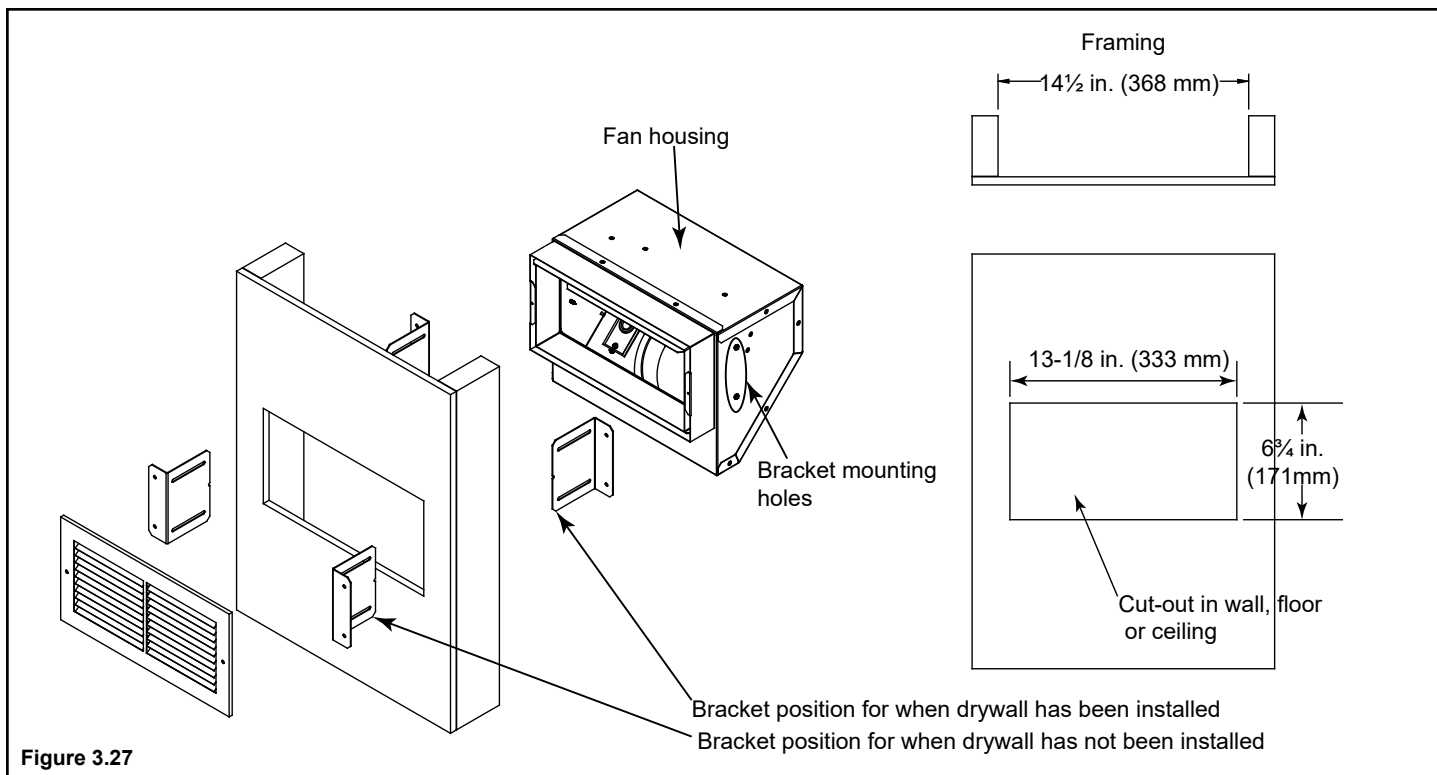

Figure 3.27
- Determine the location for the air register and fan housing assembly. Cut a 6-3/4 in. x 13-1/8 in. (177 mm x 333 mm) hole between framing members (wall studs or floor joists). Attach the brackets to the fan housing with the screws provided. The brackets can be rotated 180° and mounted to the back side of the 2 x 4 if necessary. See Figure 3.27.